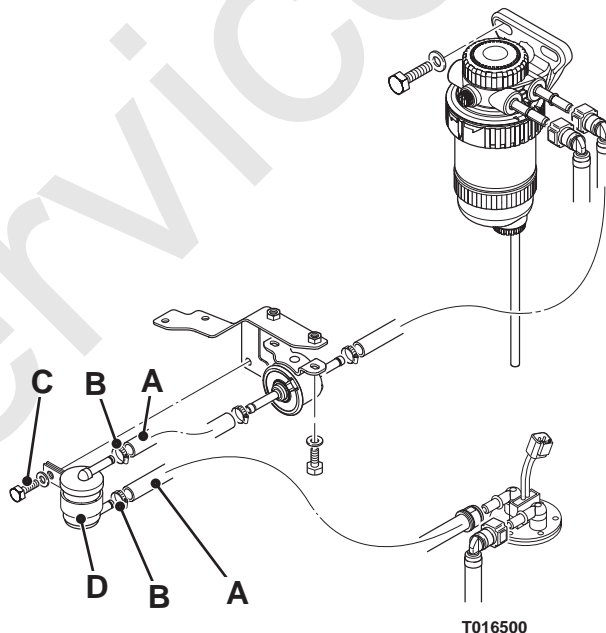

Fig 92.
- 2 Clamp the fuel hoses **A**. ⇒ Fig 92. \(□ 237\).